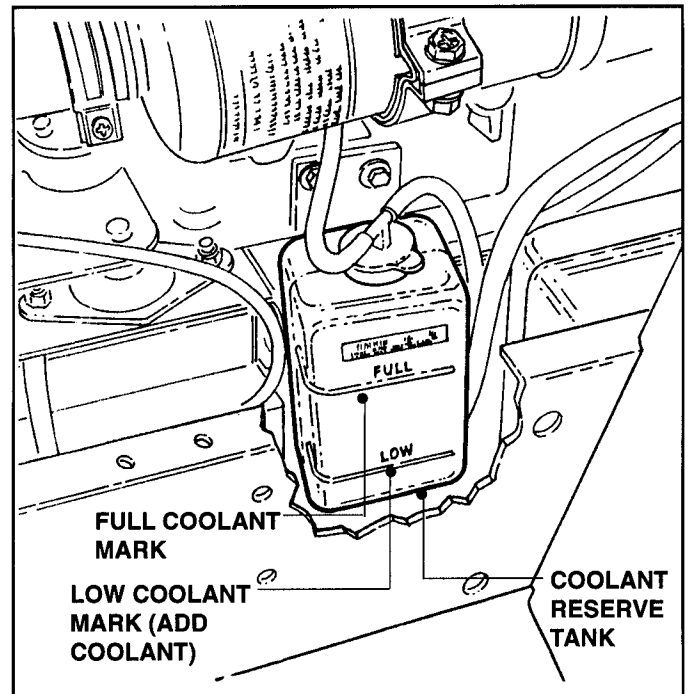

FIGURE 5.7
- COLD ENGINE ONLY** - Check Engine Coolant (antifreeze/water) and add Coolant in the Reserve Tank as needed to bring level up to the FULL mark. See Figure 5.7.
(See Pages 5.4 & 5.5, refer to Figure 5.7).